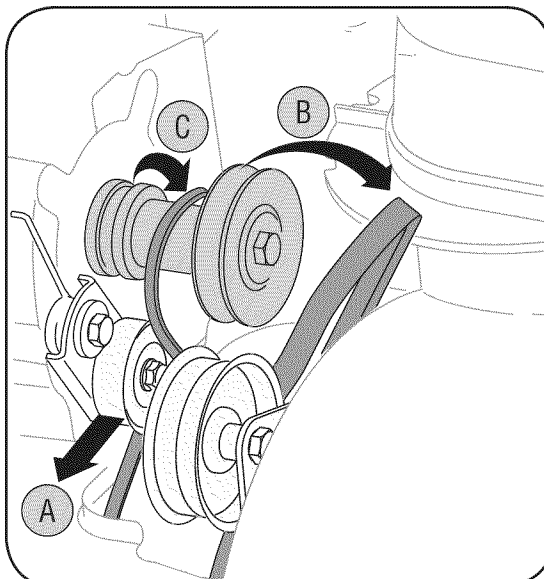

Figure 25
1. a. Grasp the idler pulley and pivot it toward the right. See Figure 25. Insert a screw driver through aligning holes in both the idler bracket and the engine. This will release tension on drive belt.
c. Lift the drive belt off engine pulley. See Figure 25.